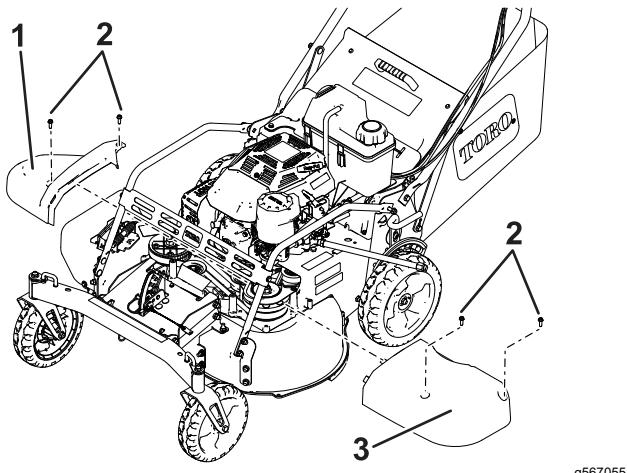

Figure 30
2. Remove the belt cover (Figure 30) by removing the 4 bolts that hold it to the machine housing.
3. Remove the belt cover (Figure 30) by removing the 4 bolts that hold it to the machine housing.